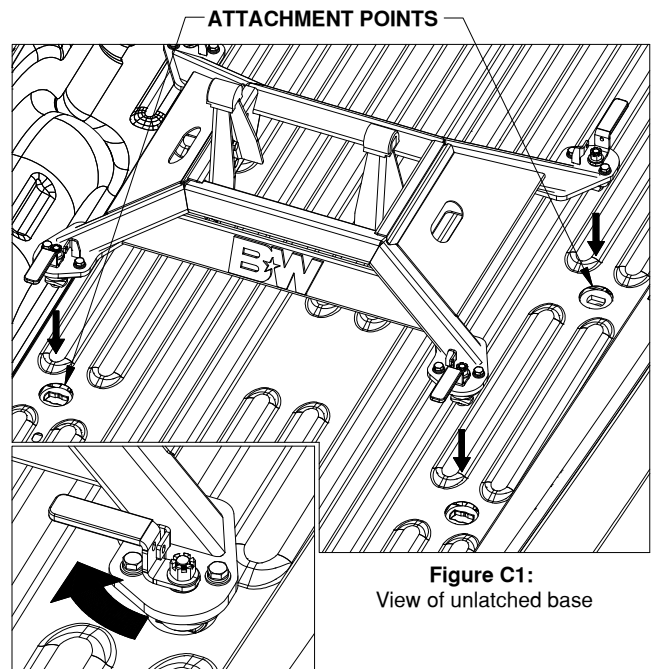

Figure C1:
- Place base.** The Companion base will mount to four attachment points in the truck bed. Remove the latch pins from each side of the base and rotate the handles out, see Figure C1. Position the base over the attachment points. Carefully lower it until the latch cams pass through the floor and the base rests flat against the top of the attachment points.